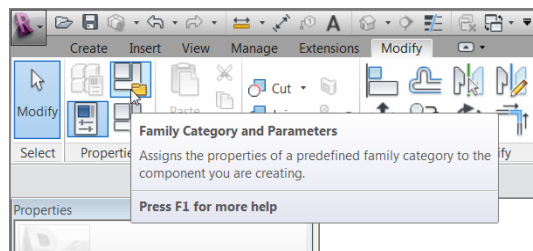

FIGURE 11.73: The Family Category And Parameters button
2. Click the Family Category And Parameters button, as shown in Figure 11.73.